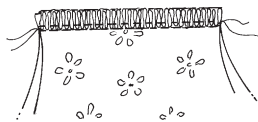

Fig. 23-1
- ❑ Sew a row of straight stitching next to the serged edge finish. (Fig. 23-1)